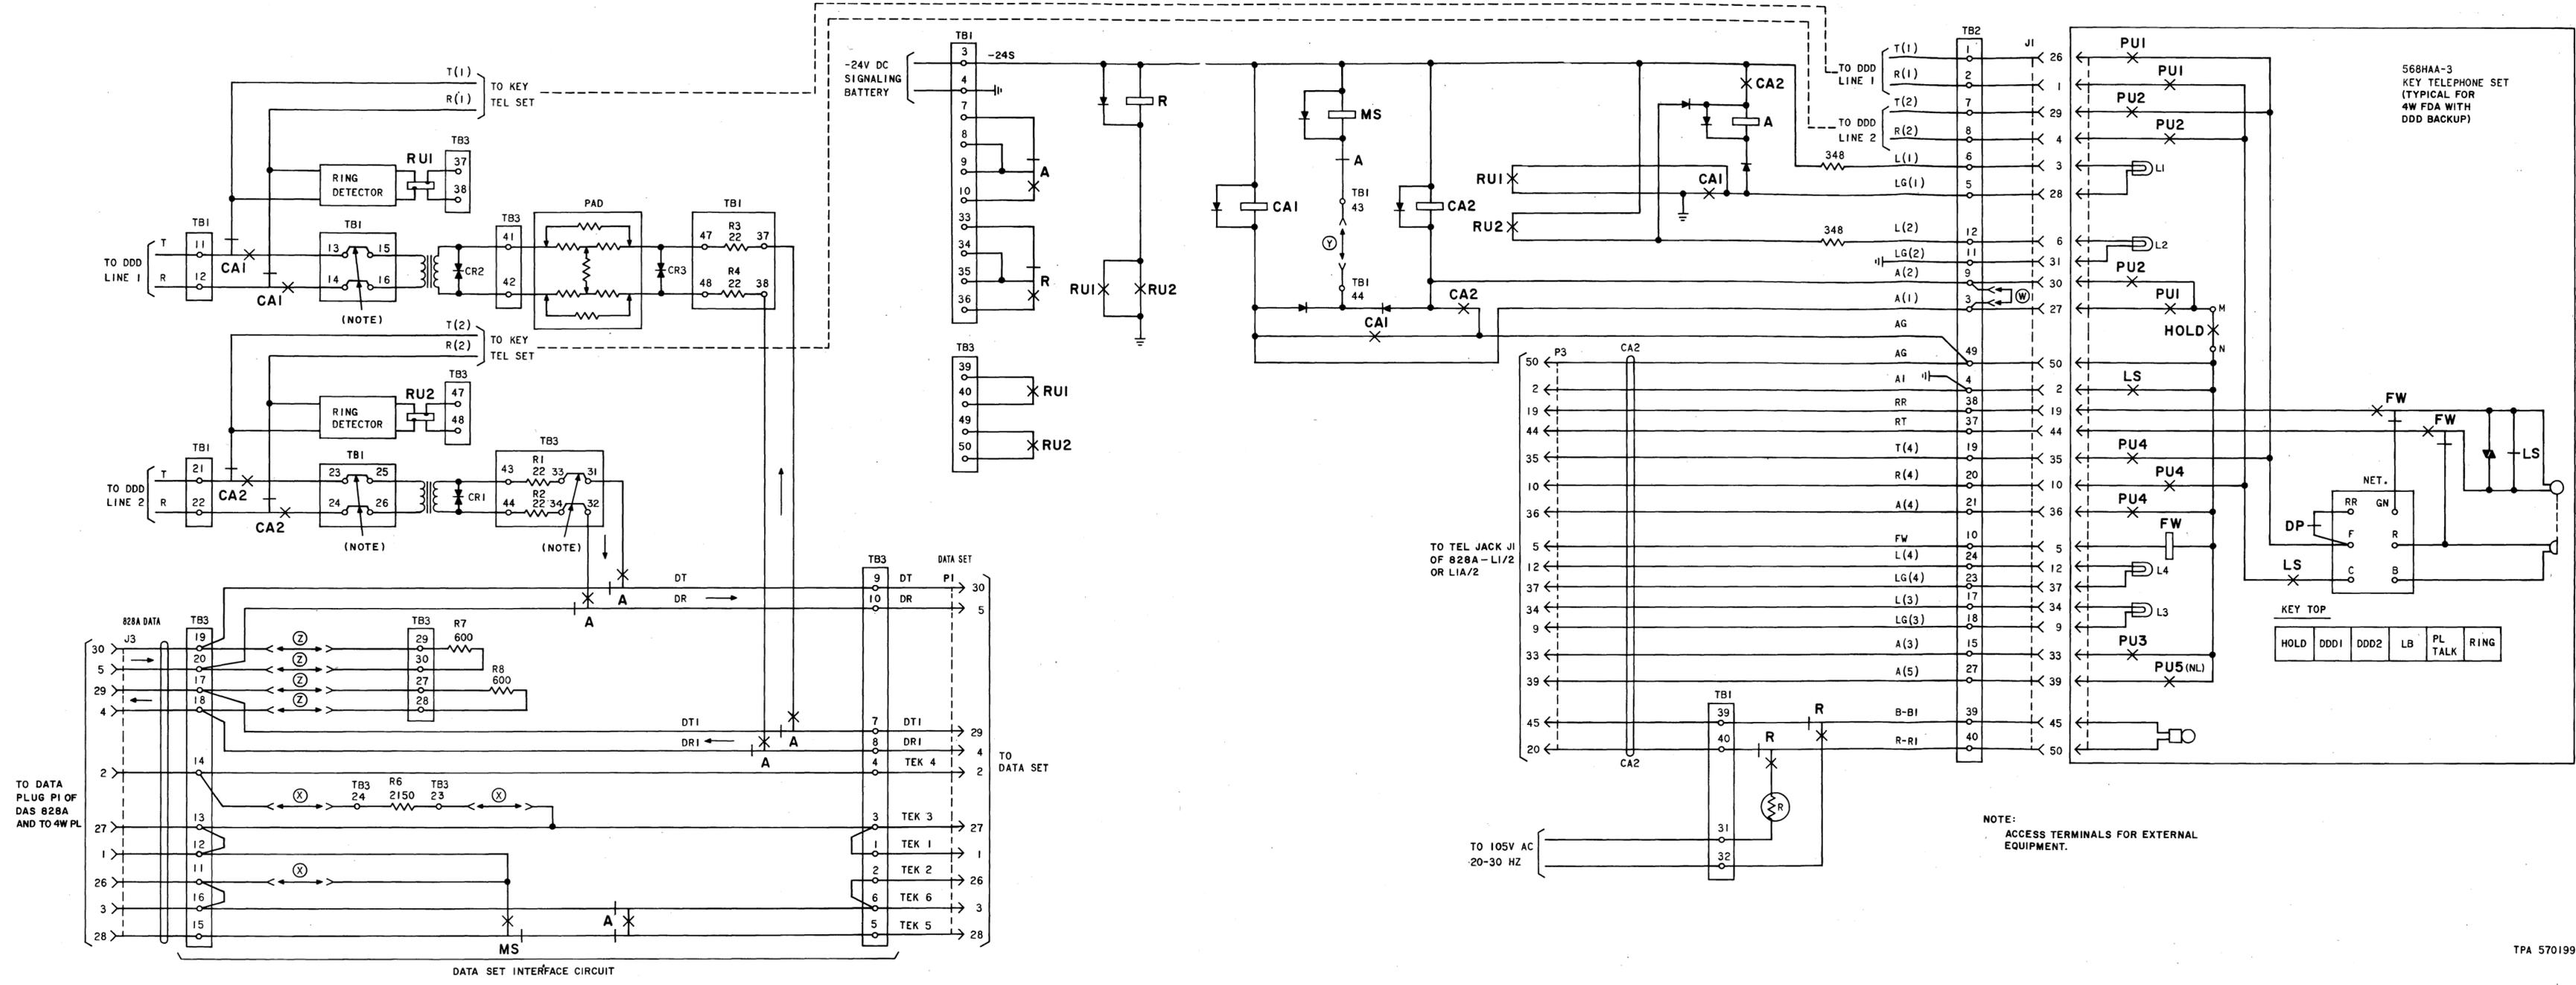

Fig. 8—Functional Diagram of DAS 828C-L1 for DDD Backup
3.03 The functional circuitry of the 828C-L1 is shown in Fig. 8, along with the 568HAA-3
telephone set that is normally provided as part of DAS 828A-L1/2 or -L1A/2. The circuitry of Fig. 8 as shown is capable of the functions listed in 1.05.
3.09 Access terminals on TB1 are provided in the line side of each repeat coil as shown in Fig. 8. Access terminals on TB3 are also provided on the drop side of the receive line repeat coil. These terminals are provided for any special application required in connecting external equipment.
3.15 The A relay contacts shown in Fig. 8 are arranged so that when the data set is transmitting and receiving data over the switched network, an "in-data" indication is given to the data set by the 828C. Also, while the 828C is in this mode, any not-in-data indication from the 828A is inhibited. Therefore, the PL may be looped back for testing or may be used for voice transmission while the data set is operating over the switched network. Figure 9 shows the composite 828A/828C circuit.
3.17 The MS contacts shown in Fig. 8 are used when it is desired to generate a not-in-data indication during the setup of a call, and are only effective when the 828C is used in conjunction with DAS 828A. This transient indication may be used, for example, to indicate to a data set that the transmission path has switched from the PL to the switched network. The data set could use this indication to initiate a startup routine to adjust to the new transmission path. The MS relay may be inhibited from operating by removing a Y option strap shown in Fig. 8. The diode across MS limits the back emf generated when direct current is interrupted.
3.18 A ring detector circuit and key telephone set line are connected to each 2W pair. Incoming ringing to either idle line operates the corresponding RU relay (RU1 or RU2) shown in Fig. 8. This in turn operates the R relay which causes the key telephone set to ring. The RU relay also causes the line lamp to flash during the
and CA2 relays. The CA1 relay operates when both the DDD1 key is depressed on the telephone set and the HOLD key is momentarily depressed. After the CA1 relay operates, it locks up through its own CA1 contact to the AG lead. The CA2 relay operates in a similar manner. Relays CA1 or CA2 also operate the MS relay as shown in Fig. 8 if option Y has been installed.
3.26 After the CA1 and CA2 relays operate, the A relay is energized. When the A relay operates, it transfers the data set to the dialed-up pairs and applies an "in-data" signal to the data set interface. The A relay also releases the MS relay as shown in Fig. 8 if option Y has been installed.
5.02 To condition the 828C for 2W operation, a strap is made on TB2 from terminal 3 to terminal 9. This connection is designated option W. Reference to Fig. 8 shows that the strap causes both the A(1) and A(2) leads to be operated through the PU1 key. Depressing the HOLD button while PU1 is depressed will cause the 828C to transfer from the PL mode to the backup mode.